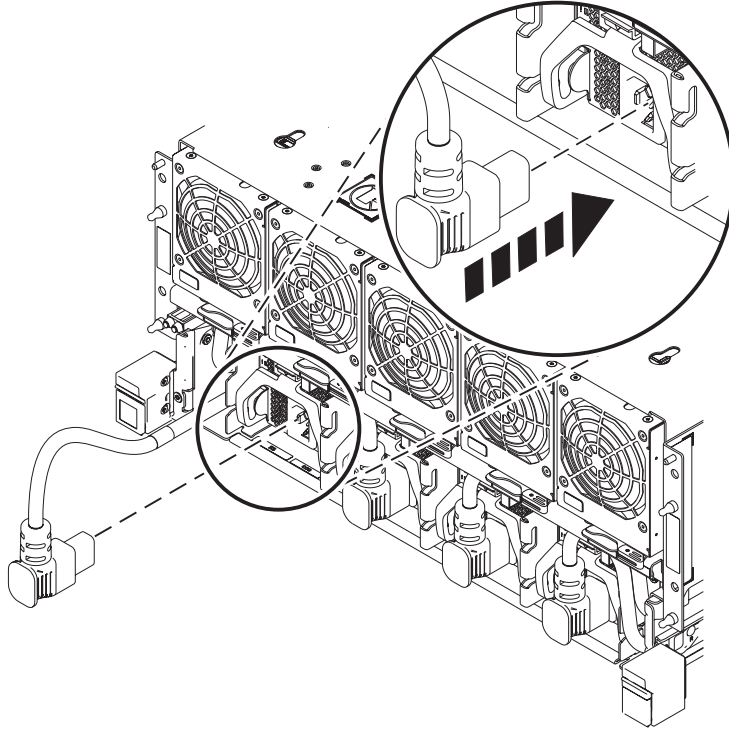

Figure 10. Reconnecting the line cord conduit cables to the power supplies
- c. Plug the line cord conduit cables into the power supplies. See Figure 10 on page 9.